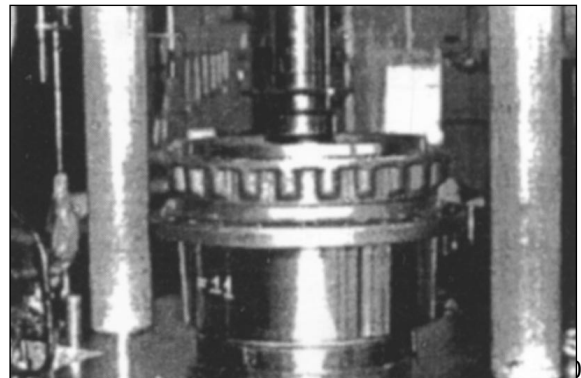

Figure 100
9. Press hub into housing using a press and a stopper. Figure 100.